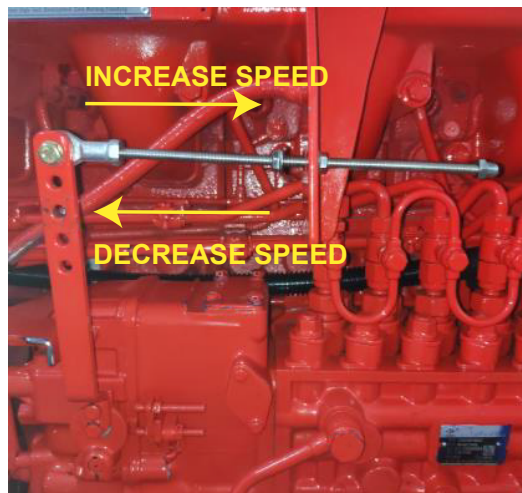

FIGURE 14 - DIESEL ENGINE SPEED CHANGES
- Loosen the jam nuts on the throttle linkage. See FIGURE 14.